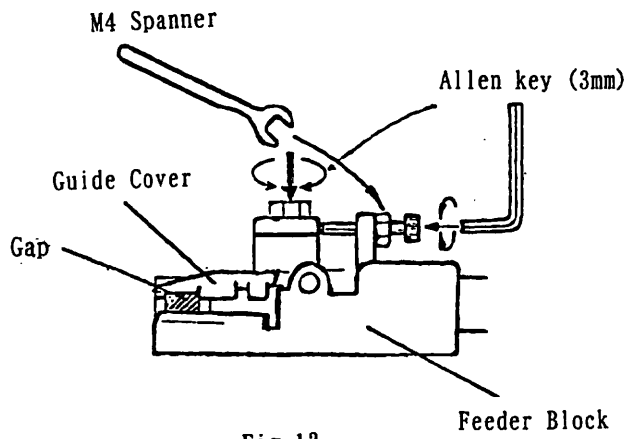

Fig. 12
- (c) The gap between the guide cover and the feeder block should be sufficient to allow free movement of the VISROPE. If this gap size is incorrect, it may result in feeding problems. If feeding problems occur, First adjust the height setting of the guide cover. Using the 3mm allen key, turn the cap screw to narrow or widen the height. If problems persist, adjust the set screw using the M4 nut wrench and 2mm allen key. As a guide for adjusting this gap, if 4.0mm diameter screws are being used, the gap should be 5.5~6.5mm. If 5.0mm diameter screws are being used, the gap should be 6.5~7.5mm. When the distance is set tighten the lock nut while holding the set screw in position with the allen key. (see fig.12)